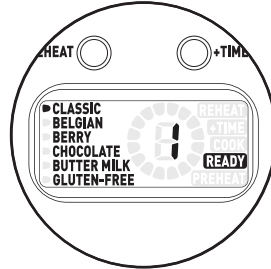

Fig. 7
3. Baking time is determined by recipe and browning level. We recommend using Setting 3 for golden brown waffles. When preheating to the suitable temperature and is ready to bake, the READY indicator will light up accompanied by a beep. (Fig. 7)